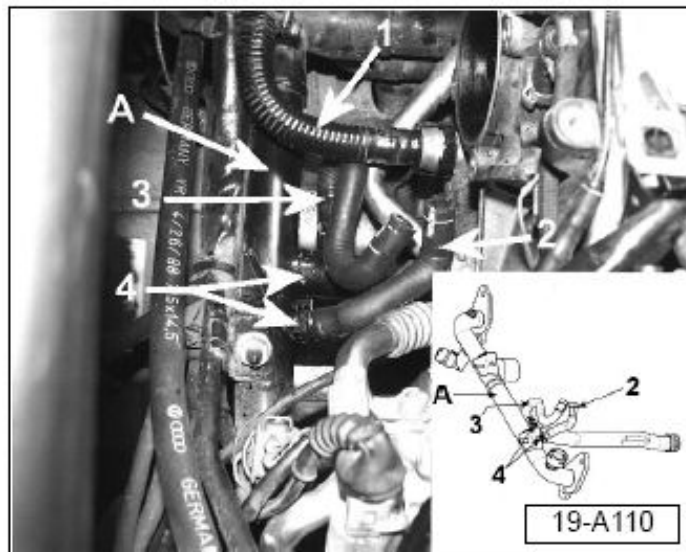

Figure 10. The crankcase ventilation hose (1), new heater hoses (2 and 3), metal water pipe (A), and new clamp (4).
27. Connect new heater hose (Figure 10, 3), Part No: **078 121 188G** to metal water pipe (Figure 10, A) with marking facing vertically upward. Secure with new clamp (Figure 10, 4), Part No: **N 906 867 01**.
28. Connect new heater hose (Figure 10, 2), Part No: **078 121 188F** to metal water pipe (Figure 10, A) with marking facing vertically upward. Secure with new clamp (Figure 10, 4), Part No: **N 906 867 01**.
29. Carefully reconnect crankcase ventilation hose (Figure 10, 1) to engine block.